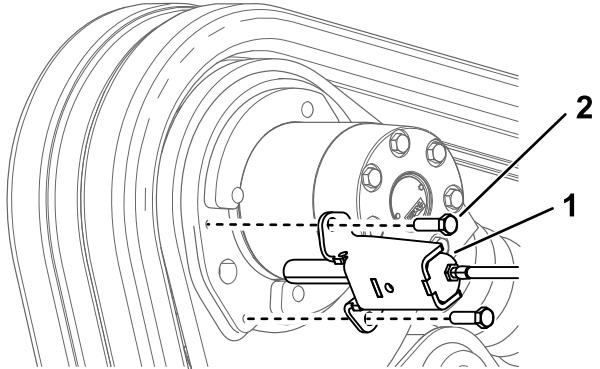

Figure 10
- E. Secure the brake mount to the motor mount, with the open side facing toward the track motor, using the 2 bolts you removed previously (Figure 10).